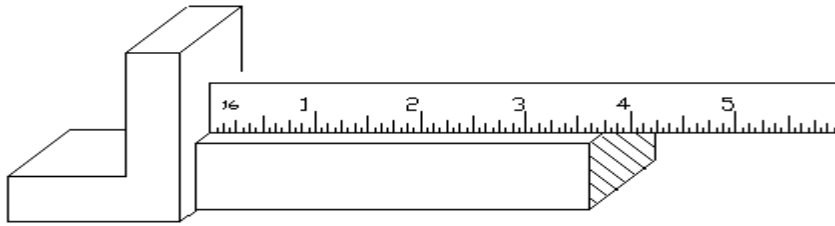

Figure 2.
- ✓ Even if the workpiece is held firmly against a reference surface such as an angle plate (Figure 2), this will not assure an accurate measurement if the end of the rule is worn off.